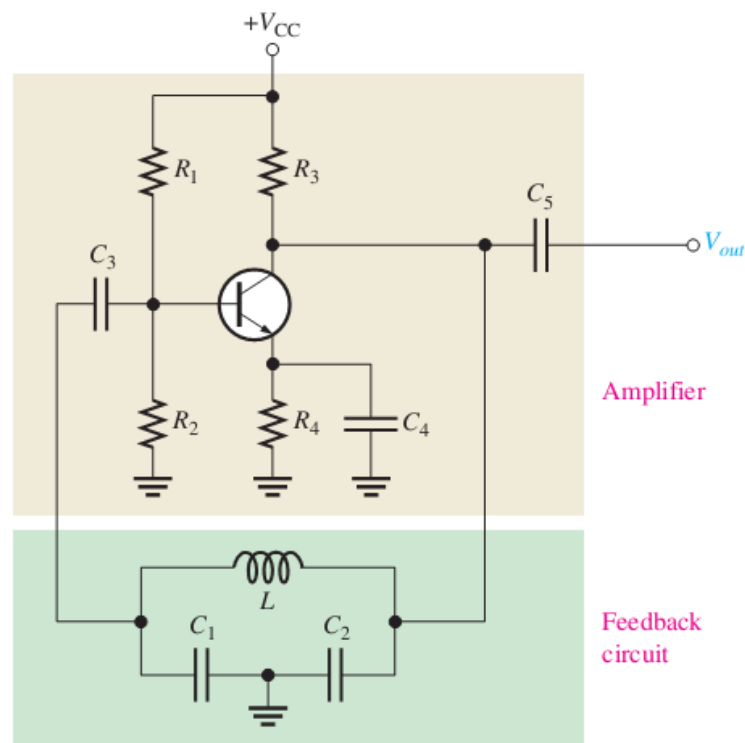

Figure 14 A basic Colpitts oscillator with a BJT as the gain element.
- One basic type of resonant circuit feedback oscillator is the Colpitts shown in Figure 14.